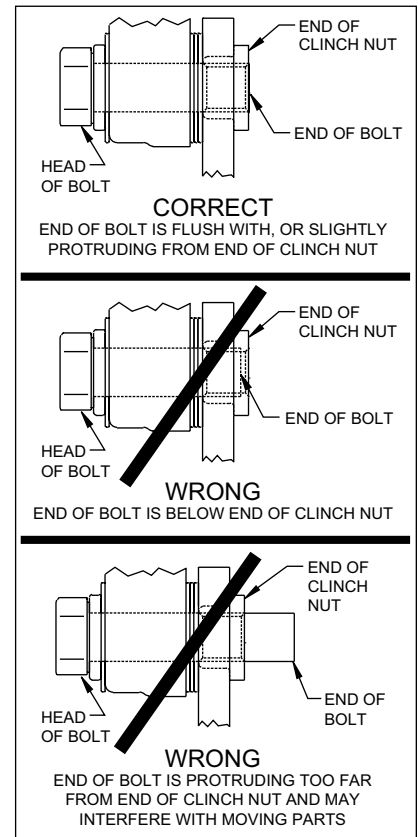

Figure 5. Clinch Nut Engagement Diagram
- Install the dust cap (18) onto the hub (7). Friction created by the o-ring (17) on the dust cap (18) keeps it from unscrewing. The O.D. of the existing spindle washer may be larger than the I.D. of the dust cap (18) which may allow the washer to contact the dust cap (18). Use the spindle washer (16) supplied with the kit instead of the stock washer.
- NOTE:** Please reference the caution statement at the beginning of the assembly instructions. Mount the caliper (19) onto the caliper bracket (1) using two bolts (21), two washers (20) and two 0.032 inch thick shims (22). Finger tighten. View the rotor (11) through the top of the caliper (19). The rotor (11) should be aligned in the center of the caliper (19). If not, loosen the two bolts (21) and adjust the caliper (19) by using 0.032 inch thick shim washers (22). The shim washers (22) should be placed between the caliper (19) and the caliper mounting bracket (1). Finger tighten and recheck alignment. Add as many shim washers (22) as necessary to achieve the correct alignment. **NOTE:** The end of the bolt must be flush with or slightly protruding from the head of the clinch nut. See Figure 5. Place spare shims (22) between washer and caliper mounting ear to achieve the proper mounting fastener configuration. Always use the same amount of shims on both the top and bottom caliper mounting bolts (21). Loosen the two bolts (21) and apply red *Loctite*® 271 to the bolt threads (21) and torque to 40 ft-lb. Safety wire the two bolts (21).
- Install the disc brake pads (23) into the caliper (19). Secure the disc brake pads to the caliper utilizing cotter pin (24).